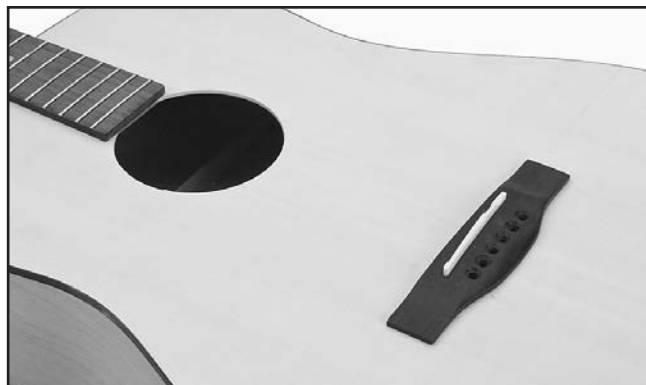

Figure 15. Bridge and saddle installed on the soundboard.
- Remove the clamp setup. Insert the saddle on the bridge. Do not glue it. The saddle and bridge are now ready for string installation (see **Figure 15**).